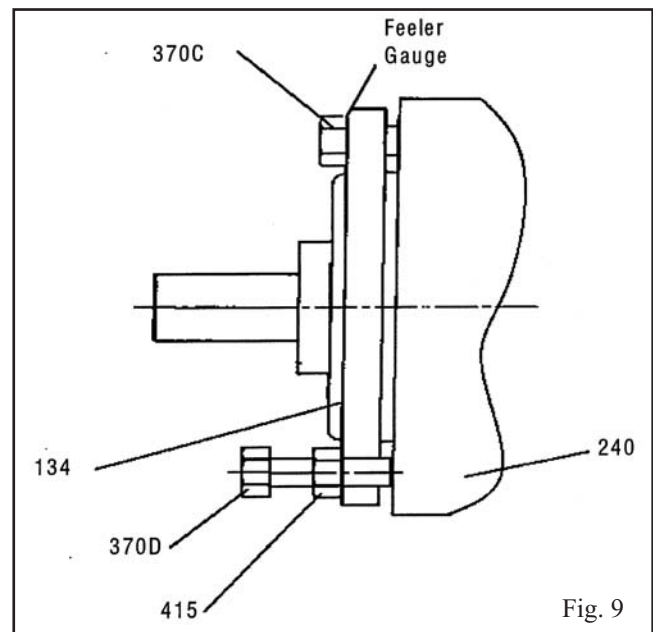

Fig. 9
3. Loosen jam nuts (415) on jack bolts (370D). Back off jack bolts several turns.
4. Turn all locking bolts (370C) in several turns until impeller contacts the suction cover (182). Turn shaft to insure contact has been made.
5. Loosen locking bolts (370C) until a 0.015" feeler gauge can be inserted between the underside of the bolt head and the bearing shell (134) See Fig. 9.
6. Tighten jack bolts (370D) evenly until the bearing shell (134) is tight against the locking bolts. Make sure all bolts are tight. Tighten jam nuts (415).
18a. Loosen locking bolts (370C) and jam nuts (415). Tighten jacking bolts (370D) until impeller is pushed off the shaft (see Fig. 9 page 23), or